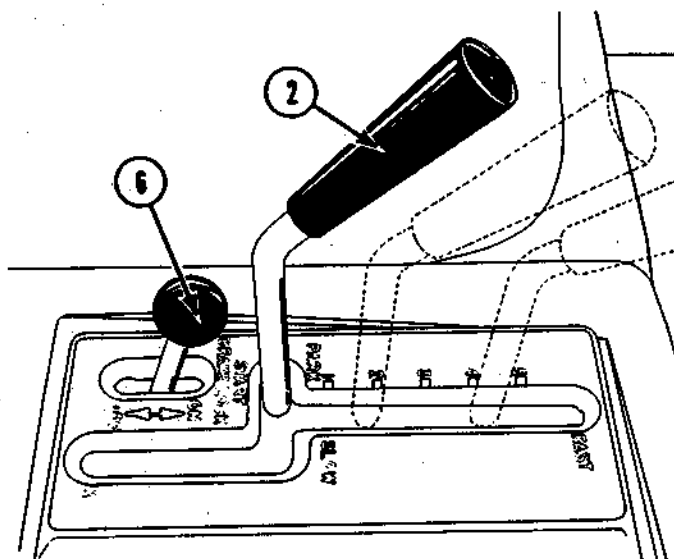
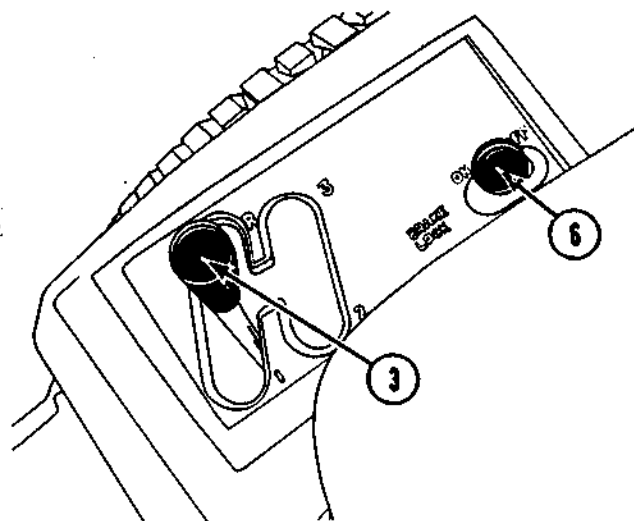

Figure 2
Figure 3
- 2 HYDROSTATIC CONTROL LEVER** (Hydrostatic Models — Figure 2)
- 3 GEAR SHIFT LEVER** — (Gear Shift Models) — Figure 3.
THE GEAR SHIFT LEVER MUST BE IN THE FORWARD NEUTRAL POSITION AS SHOWN IN FIGURE 3 TO START THE ENGINE.
BRAKE LOCK – Figures 2 and 3
To lock the brake, push the brake lock forward with the foot pedal fully depressed. Then release the foot pedal. Figure 2 shows the brake lock engaged. Figure 3 shows it disengaged.
2. **HYDROSTATIC MODELS.** Place hydrostatic control lever **2** in the "park-start" position as shown in Figure 2.
3. **GEAR SHIFT MODELS.** Place gear shift lever **3** in the forward (neutral) position as shown in Figure 3.